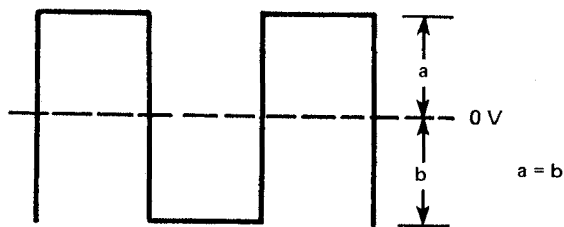

Figure 6-6. Square Wave Level Adjustment
- Adjust VR201 so that the dc level is zero volts. Refer to Fig. 6-6.